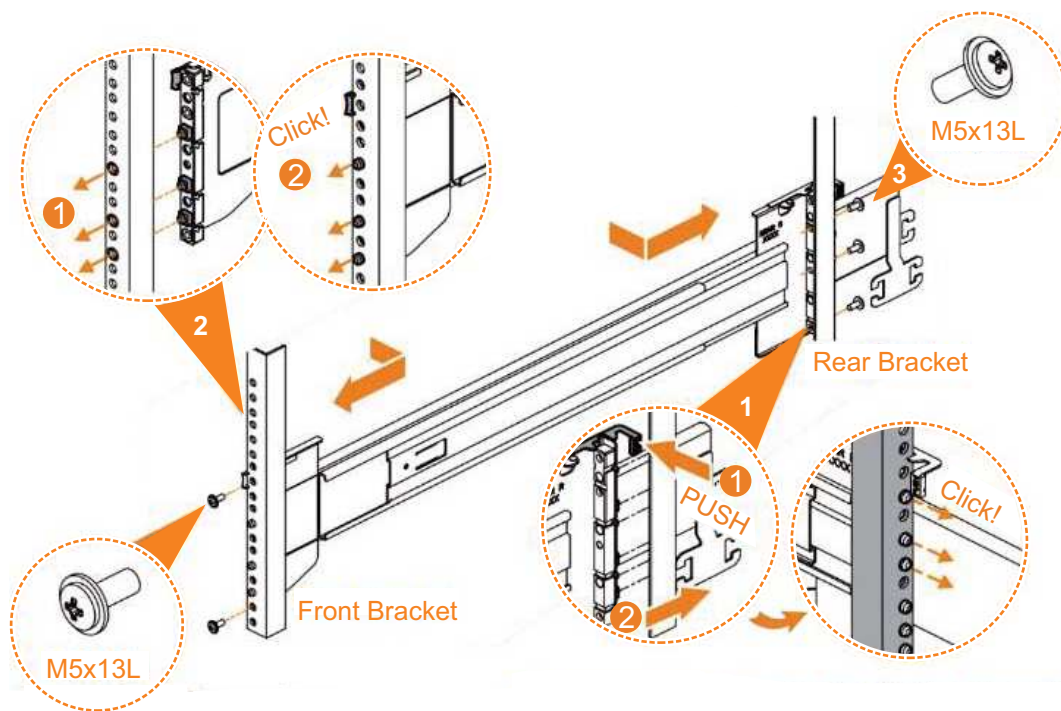

Figure 36. Installing the rail assembly to the rack frame
6. Use the M5 screws to install the outer rail member and bracket assembly to the rack, as shown in Figure 36.